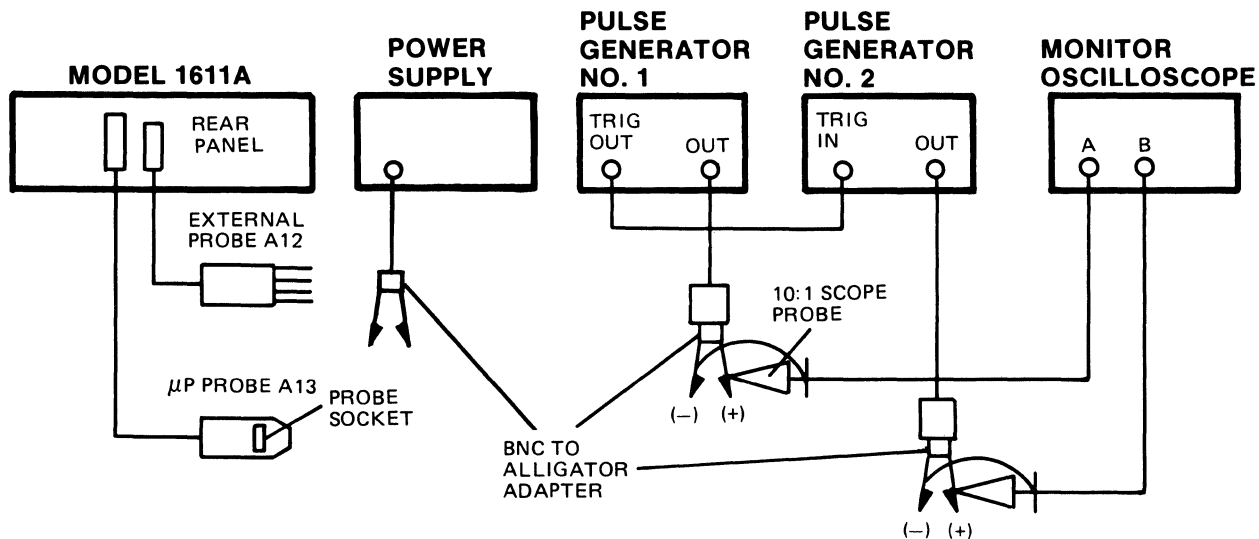

Figure 4-6. Ready Line Test
- Connect test equipment as shown in figure 4-6.